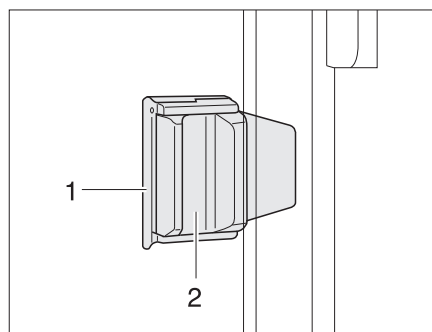

Fig. 59 Sliding window with slide lock
- Pull out the lock (Fig. 59,1).
- Press handle (Fig. 59,2) and push it forward or backward at the same time.
- Turn the locking knob (Fig. 59,1) into the vertical position.